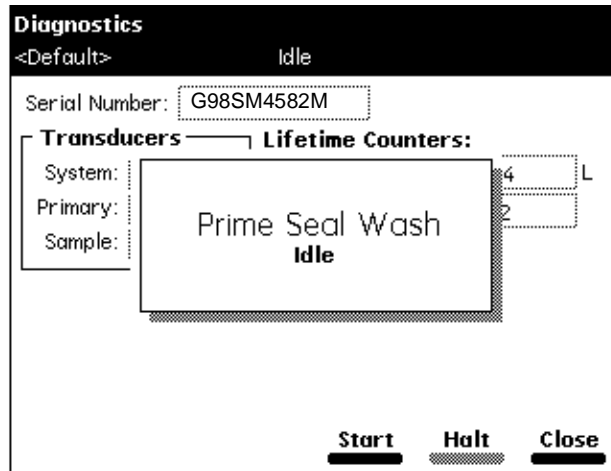

Figure 8-4 Prime Seal Wash Screen
4. Press the **Prime SealWsh** screen key in the Diagnostics screen. The Prime Seal Wash dialog box appears (Figure 8-4).